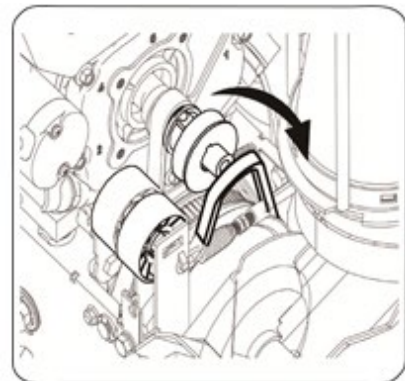

Fig.23
3. Roll the belt off the engine belt guard. See figure 23.